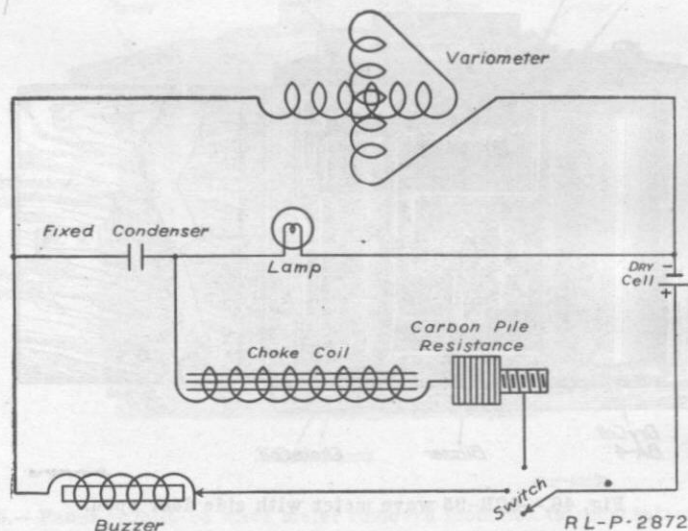

Fig. 47.—Schematic diagram of connections in the SCR-95 wave meter.
4. Check the wiring with the wiring diagram shown in Fig. 47.